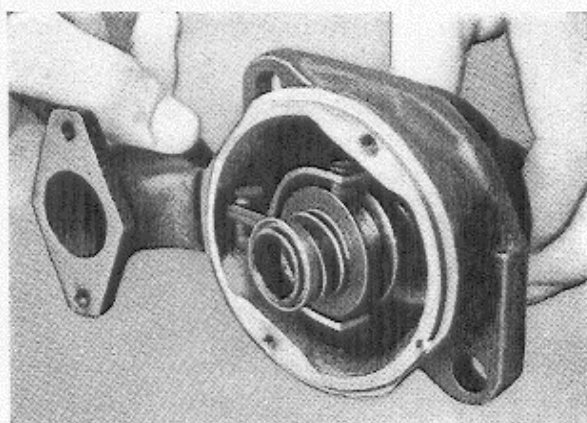
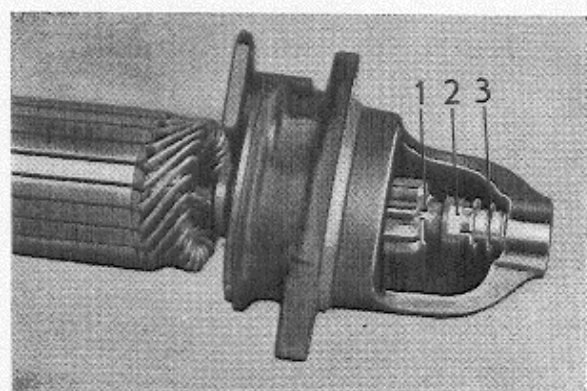

Fig. 63.
Fig. 64.
3. Fit the starter drive in the commutator end head with the guide sleeve in the coupling arm pins, Fig. 63. Fit the rotor shaft in the starter drive and fit on the lock ring (1, Fig. 64), nut (2) and washer (3). Tighten the nut and lock with a cotter pin.